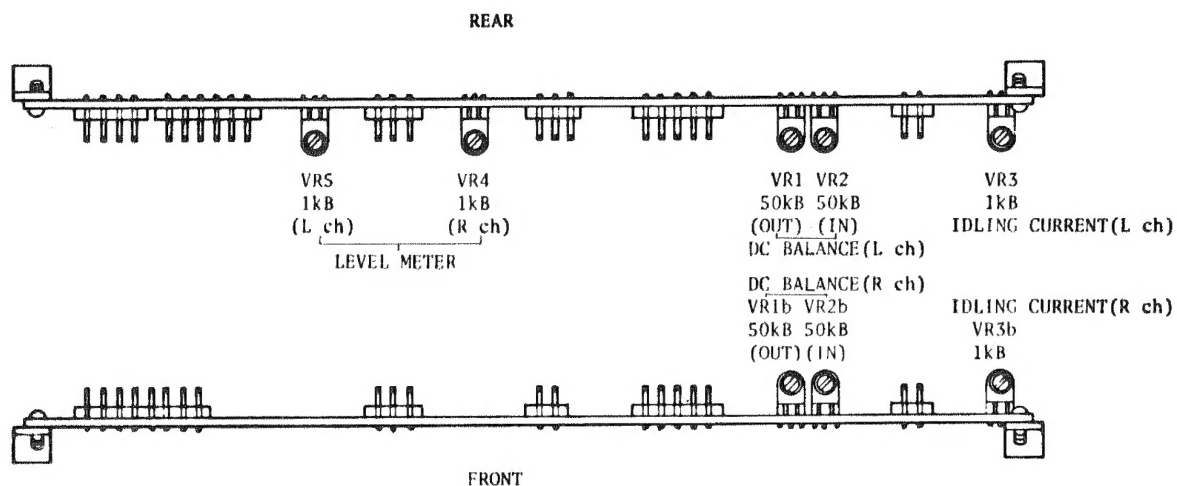
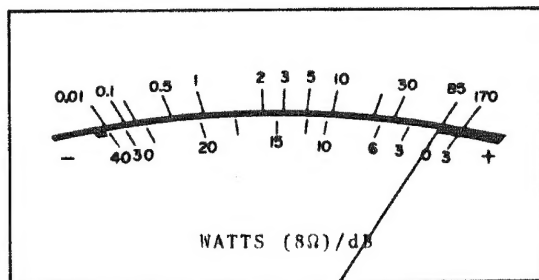

Fig. 5 AM-2850/2950 Main Amp Adjust Points.
Fig. 10 AM-2850 Level Meter.
3.1 Adjusting the Idling Current (Refer to Figs. 5, 6, 7)
3.2 Adjusting the DC Balance (Refer to Figs. 5, 8)
4. Now, adjust VR5 (Left) and VR4 (Right) on the Main Amp P.C. board (see Fig. 5) until each POWER LEVEL meter deflects to the mark '85' for the AM-2850 or '120' for the AM-2950 (see Figs. 10, 11).